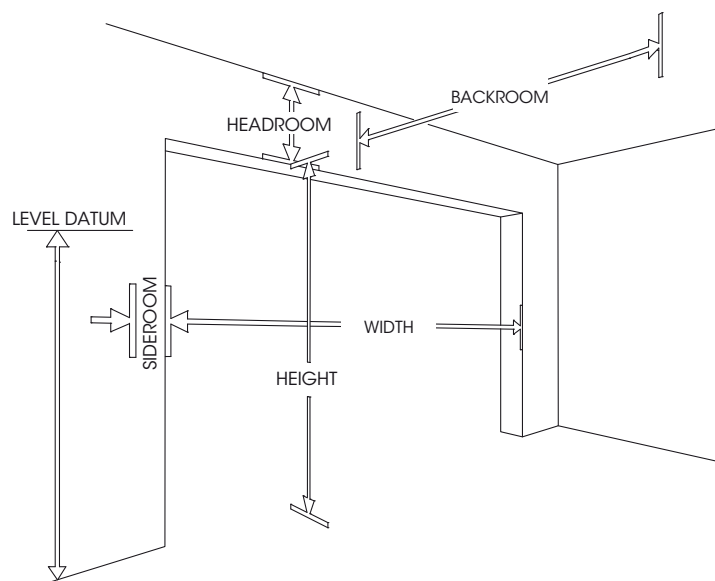

Fig: 1.4.1
**opening width** - As the door overlaps each side by 30mm or more, the door should be 60mm wider than the opening. A wider door can be fitted as long as additional sideroom and fixing is available. See Fig 1.4.1.